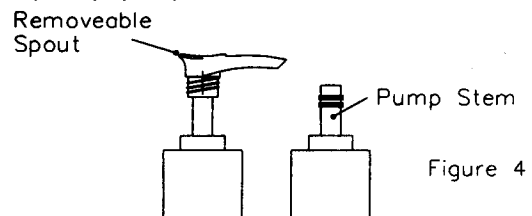

Figure 4
B. PULL the spout off the pump. You will be left with the PUMP STEM attached to the cartridge. (Figure 4)